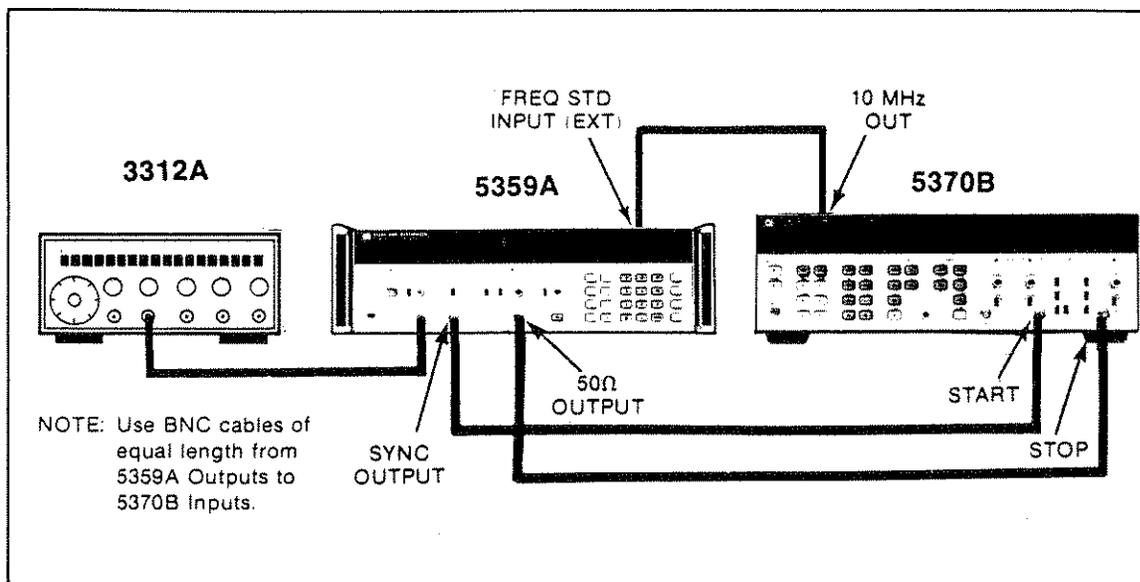

Figure 4-4. Setup for DELAY STEP SIZE Performance Test
d. Connect the 3312A, 5359A and 5370B as shown in Figure 4-4.